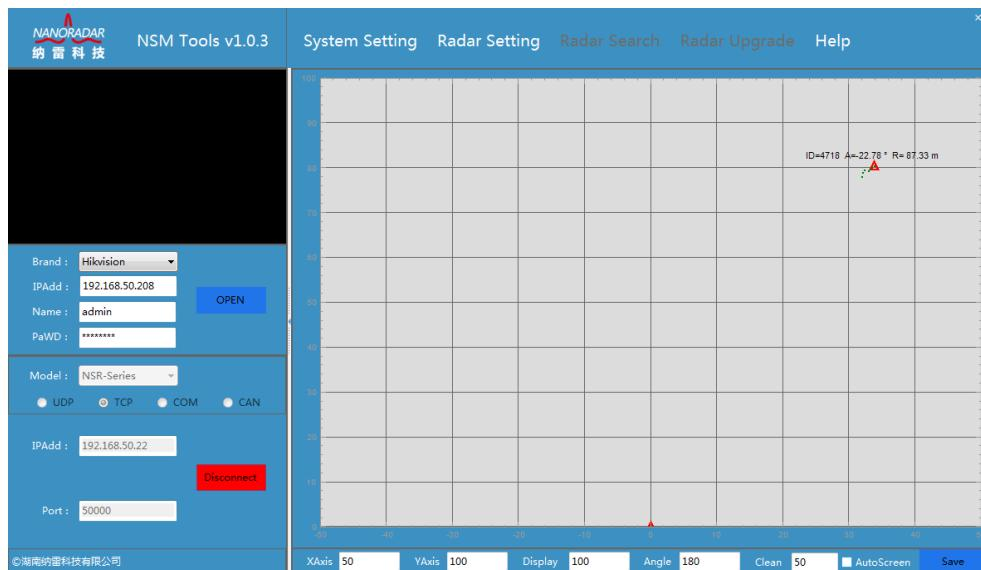

Fig 1-6 Target Information Display
Step 5: As shown in Fig 1-6, target ID:4718,A(angle)=-22.78° ,R (range) =87.33m.